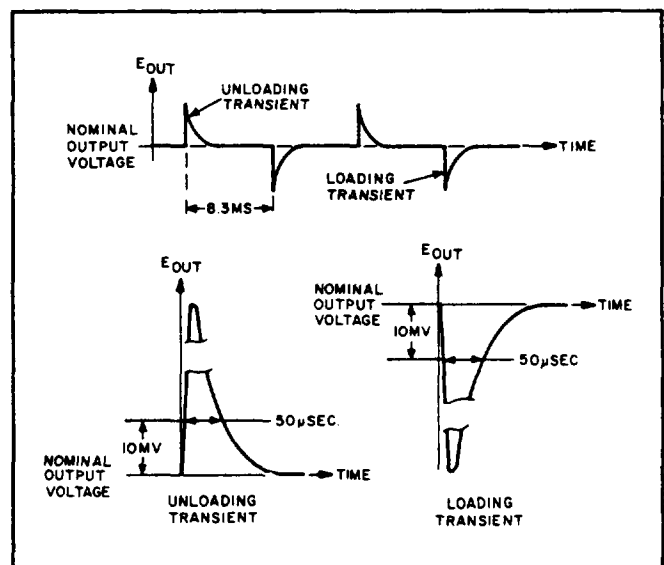

Figure 5-6. Transient Recovery Time Waveforms
- Starting from the major graticule division representative of time zero, count to the right 50µsec and vertically 10mV. Recovery should be within these tolerances as illustrated in Figure 5-6.